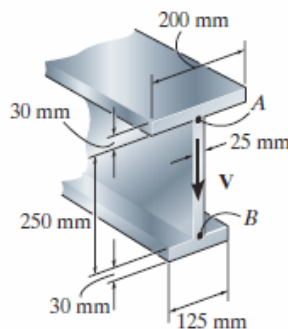

Fig. 6
6. If the beam is subjected to a shear of  $V = 15 \text{ kN}$ , determine the web's shear stress at A and B. Indicate the shear-stress components on a volume element located at these points. Show that the neutral axis is located at from  $y = 0.1747 \text{ m}$  the bottom and  $I_{NA} = 0.21821 \times 10^{-3} \text{ m}^4$ . (Fig. 6)